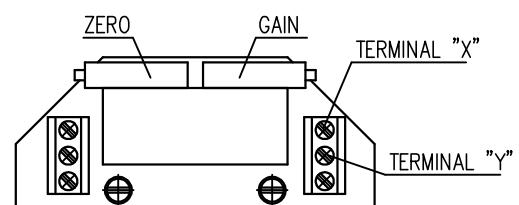

Fig.6
4.4.2 EPV – 3-wire version (Fig. 6)
- Adjust the resistive transmitter according to the previous chapter. The resistance is to be metered on the terminals X-Y (Fig. 6). The used transmitter resistance is 2000 Ω or 100 Ω .
- Turn the adjusting trimmer ZERO (Fig. 6) to adjust the output current signal rate measured on the terminals 81-82 to 0 mA or 4mA.
- Turn the adjusting trimmer GAIN (Fig. 6) to adjust the output current signal rate measured on the terminals 81-82 to 20mA or 5 mA..